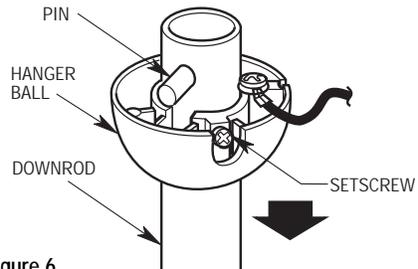

Figure 6
- 13. Remove the hanger ball by loosening the setscrew in the hanger ball until the ball falls freely down the downrod (Figure 6). Remove the pin from the downrod, then remove the hanger ball. Retain the pin and hanger ball for reinstallation in step 20.